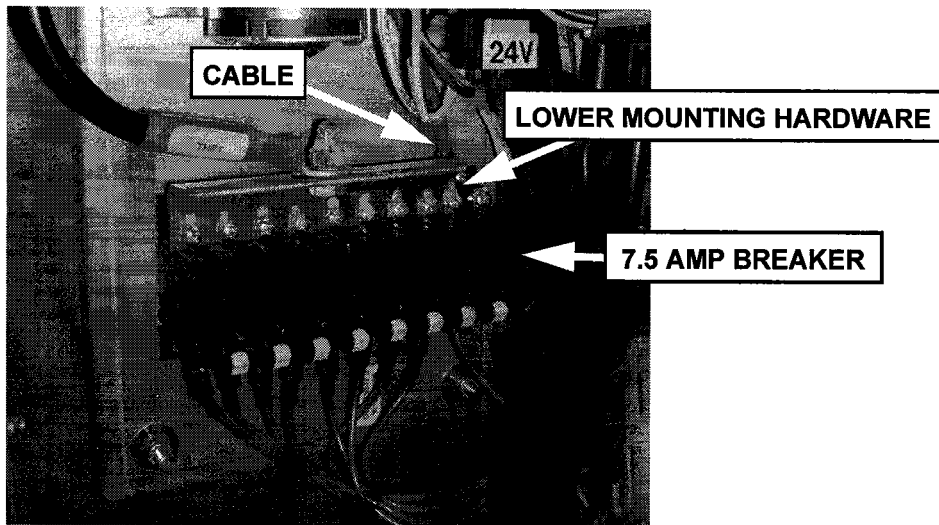

Figure 1-4 24V Breaker Bar Mounting Hardware
3. Remove the lower mounting hardware from the breaker bar. See **Figure 1-4**
4. Remove the cable. See **Figure 1-4**
5. Remove the 7.5 AMP breaker from mounting position. Retain for installation. See **Figure 1-4**